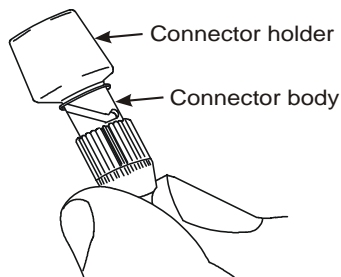

Figure 26. Install Connector Holder
3. **Place Connector in 600A or 600B Connector Holder**—Place the connector into a 600A or 600B connector holder making sure that the bayonet pins of the holder are fully seated in the bayonet slots of the connector housing (Figure 26).
4. **Inject Adhesive into Connector Body**—Gently insert the syringe tip into the barrel of the connector until it bottoms, then slowly inject adhesive into the connector until a bead of adhesive forms on the tip of the ferrule (Figure 26).